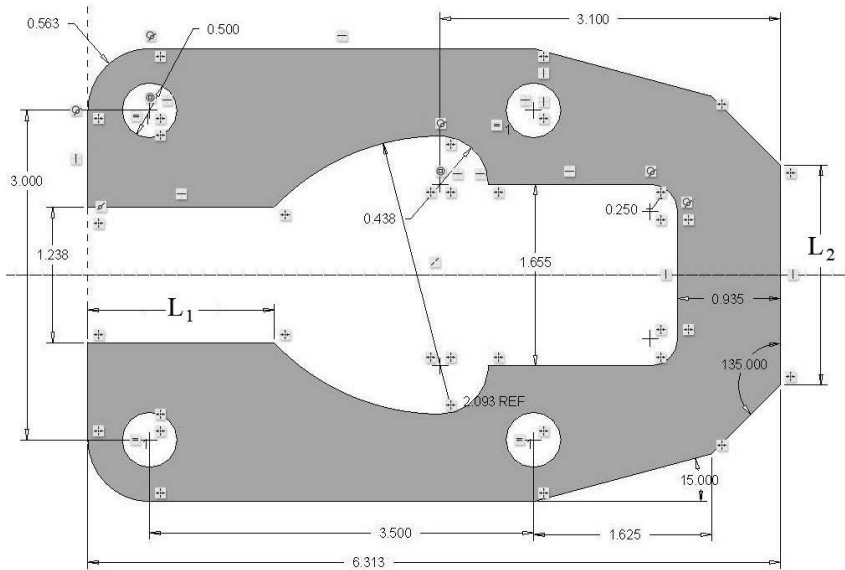

Figure 3-71 Problem 2—Latch Plate
3.2 Draw "latch_plate" (Figure 3-71). **Design Intent**—The plate must be symmetrical about a horizontal centerline (draw 1st). The four holes must be at the corners of a 3.000 inch by 3.500 inch imaginary box. Note that the beginning of the 15° line is directly below or above the center of the circles of radius R1. What is the length of the far right vertical line L_2 and the horizontal line L_1 ? Note that 2.093 must be a reference dimension if the sketch is drawn correctly. (>File>Options>Sketcher, change to 3 decimal places before sketching. Pick OK.)